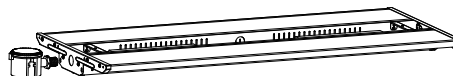

Figure 7
Step 2. Remove side knockout, and install the sensor (Figure 7)